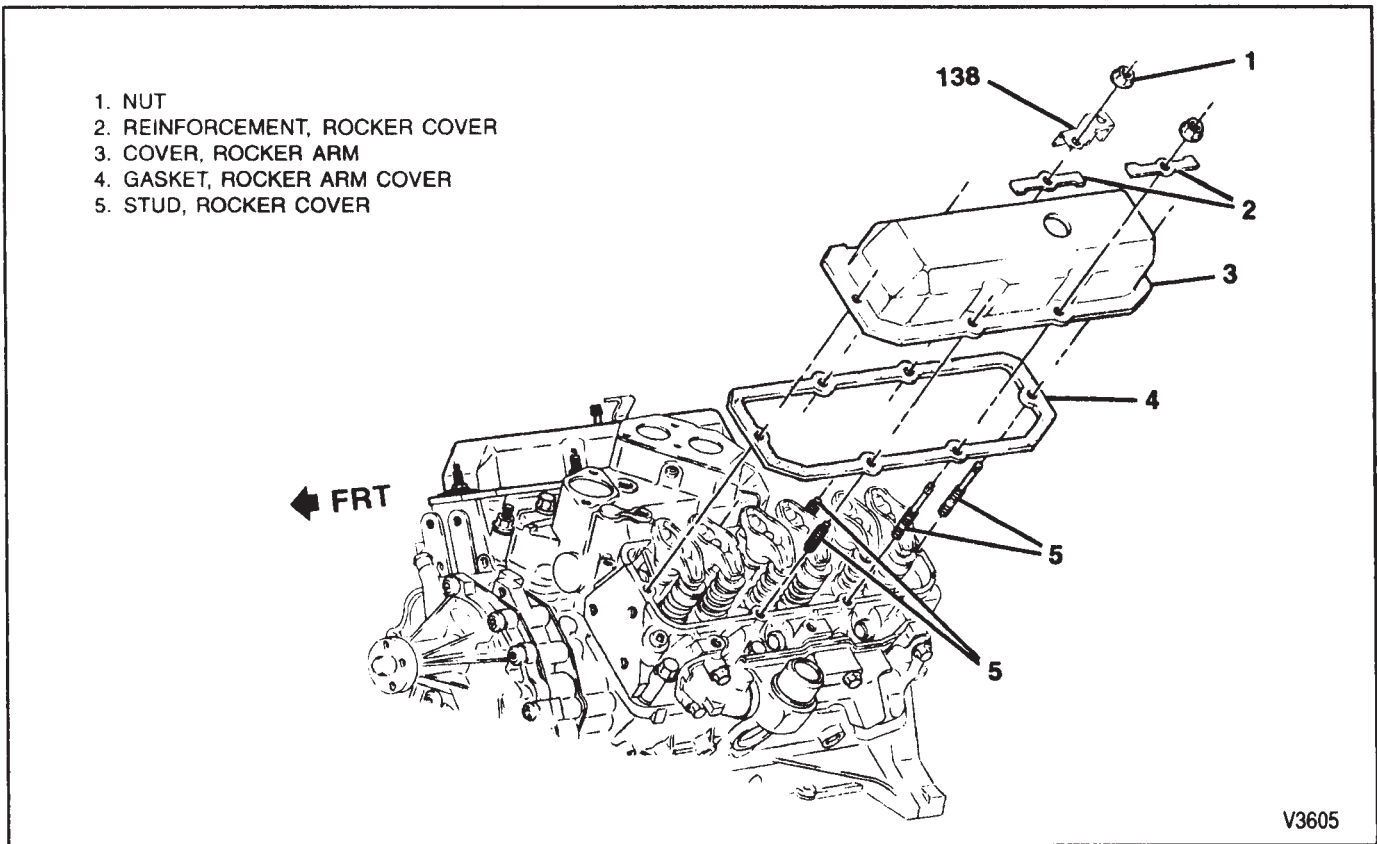

Figure 9—Rocker Arm Cover and Components
#### ↔ Remove or Disconnect (Figure 9)
#### →↔ Install or Connect (Figure 9)
- Nuts (1) to 8 N·m (72 in. lbs.).
**Remove or Disconnect (Figure 9)**
5. Rocker arm cover nuts (1) and reinforcements (2).
**Install or Connect (Figure 9)**
2. Rocker arm cover nuts (1) and reinforcements (2).
### ↔ Remove or Disconnect (Figures 9 and 10)
### ↔ Install or Connect (Figures 9 and 10)